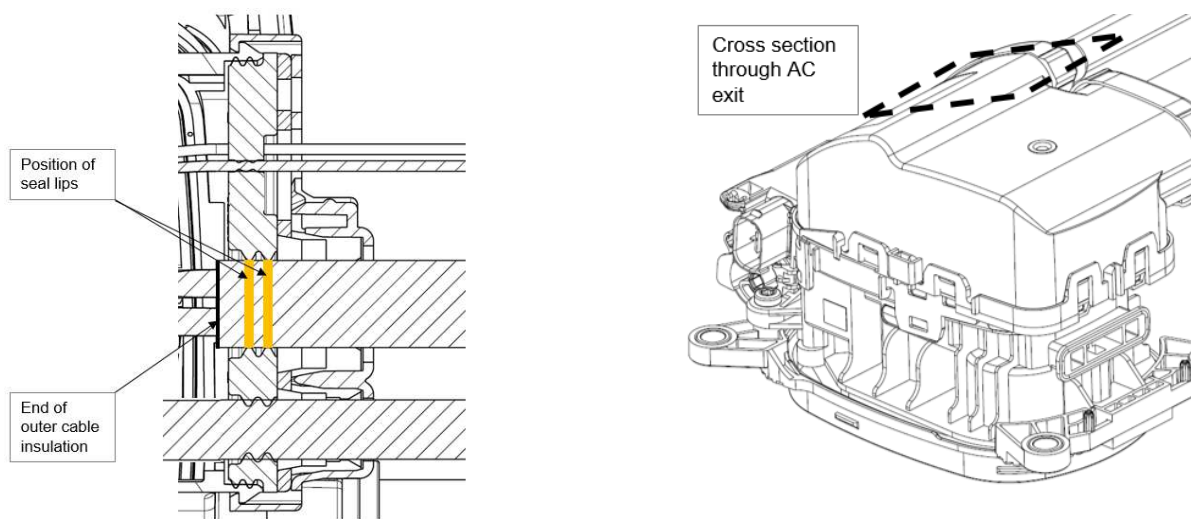

Figure 38 – AC seal lips
**ATTENTION:** Ensure that the AC-Multicore cable is well positioned in the FAMILY SEAL, that all seal lips are safely placed on the outer isolation of the cables. (Figure 38)
Push the COVER CABLE SEAL AC 2296057-2 over it and snap it on the CABLE EXIT COVER LEFT 1-2303200-1 OR RIGHT 1-2303200-2. Ensure that both hooks are correctly engaged (double audible click), see figure 38.